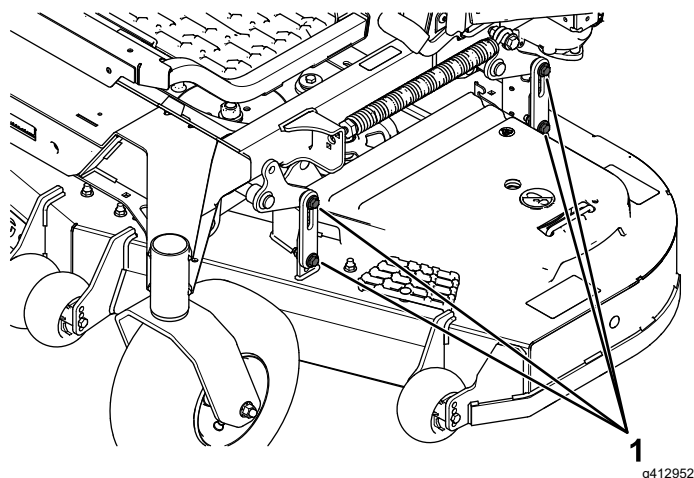

Figure 92
16. Loosen the bolts (Figure 92) on all 4 corners and ensure that the mower deck is sitting securely on all 4 blocks.